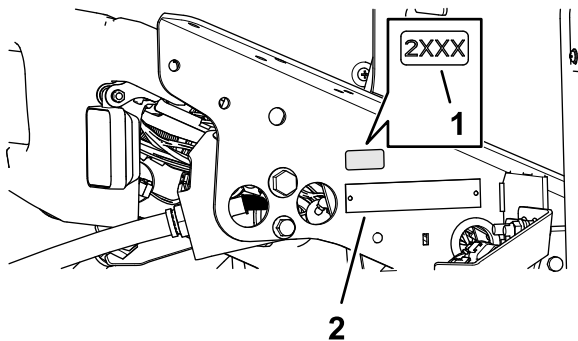

Figure 33
1. Use rubbing alcohol and a clean rag to clean the floor bracket area next to the serial plate, and allow the bracket to dry (Figure 33).